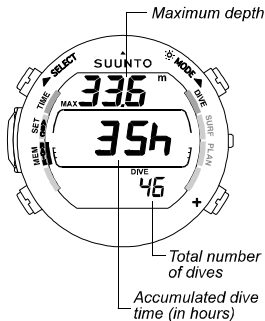

Fig. 6.10 Dive History Memory.
2. Wait two seconds until the Dive History Memory Mode activates automatically. The following information will be shown on the display (Fig. 6.10):